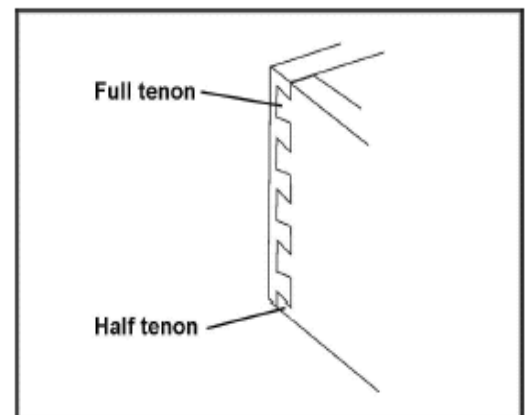

Figure 27
**TIP:** When using drawer side widths that are not “whole inch” sizes, you may wish to gauge off the top of the drawer rather than the bottom when placing workpieces in the machine. Doing this will improve the look of the drawer by providing a full tenon near the top of the drawer and the half-tenon will end up at the bottom. See Figure 27.